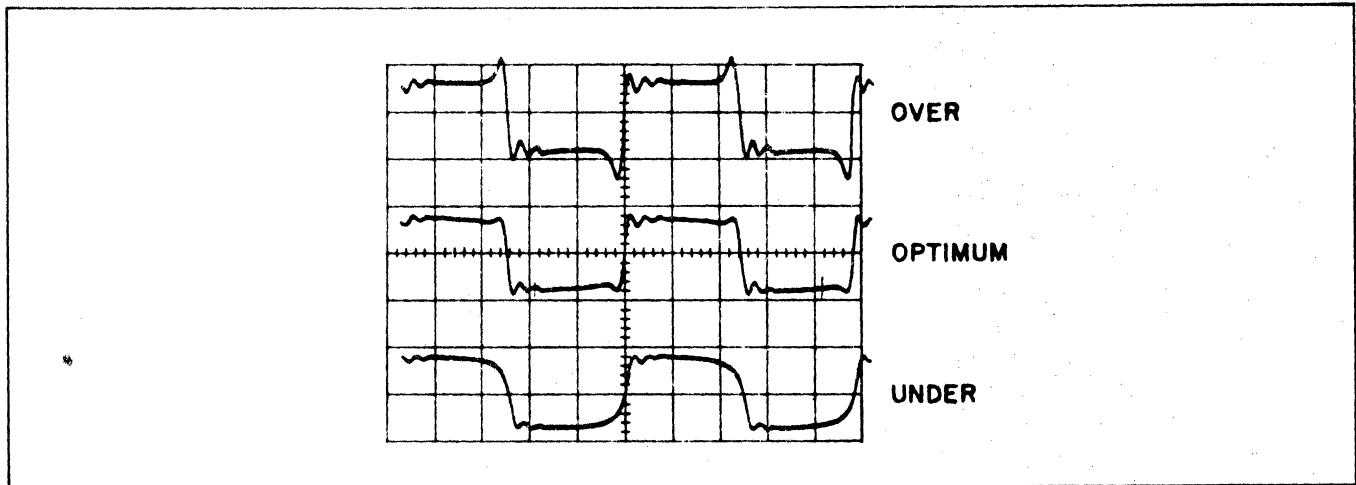

Figure 5-3. Phase Adjustment
d. Refer to figure 5-3 and adjust R67, the phase adjustment control on the reproduce amplifier, for approximately 10% pre-ring at the trailing edge of the square wave. Avoid a setting of R67 which affects the leading edge of the square wave.